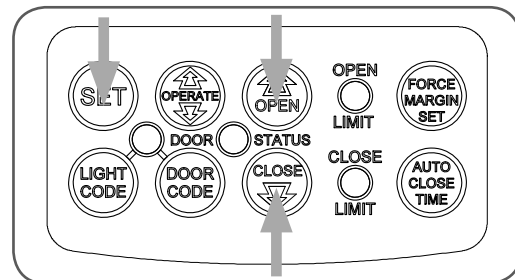

fig 12
- Press and hold the CLOSE button - the door should start closing (**Fig. 12**).